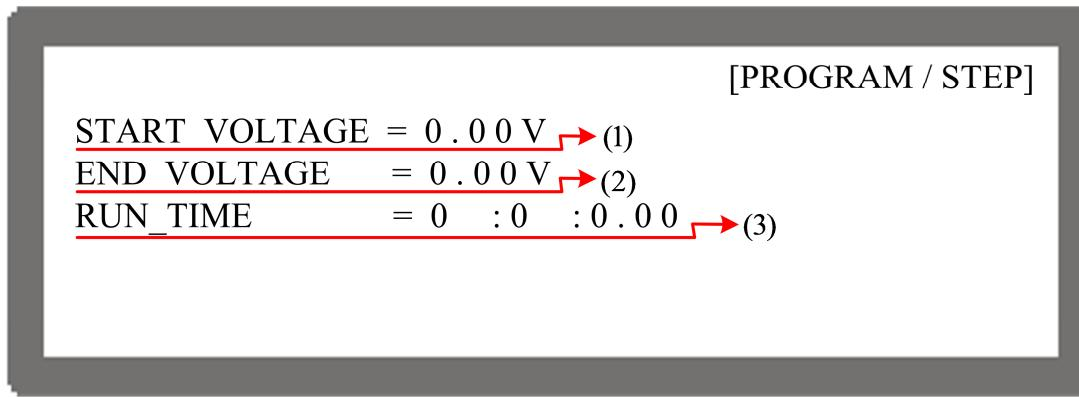

Figure 4-19
1. Use the “”, “” keys to move the cursor to the column to be set as shown in Figure 4-19 (1). Set the start voltage for STEP MODE.
1. Use the “”, “” keys to move the cursor to the column to be set as shown in Figure 4-19 (2). Set the end voltage for STEP MODE.
1. Use the “”, “” keys to move the cursor to the column to be set as shown in Figure 4-19(3). Set the run time for STEP MODE. The time format is HOUR:MIN:SEC and the maximum setting is 99 hours 59 minutes and 59.99 seconds.